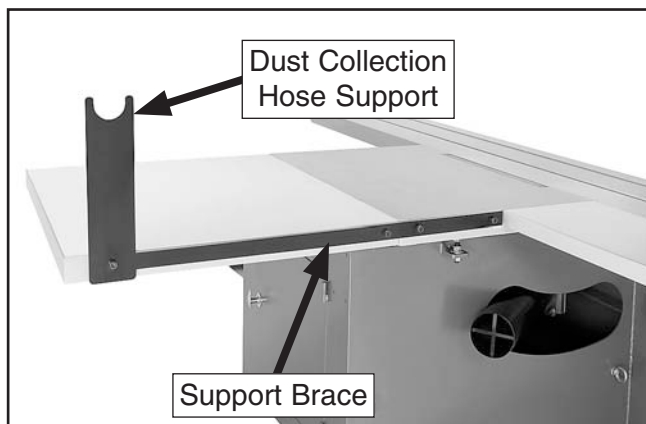

Figure 24. Support brace and dust collection hose support installation.
7. Attach the support brace and dust collection hose support to the table with four M10-1.5 x 30 cap screws, four 10mm lock washers, four 10mm flat washers, and two M10-1.5 hex nuts, as shown in **Figure 24**.